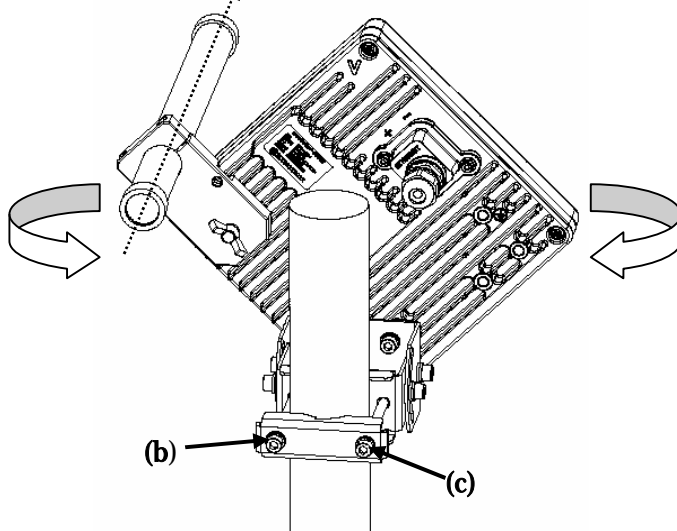
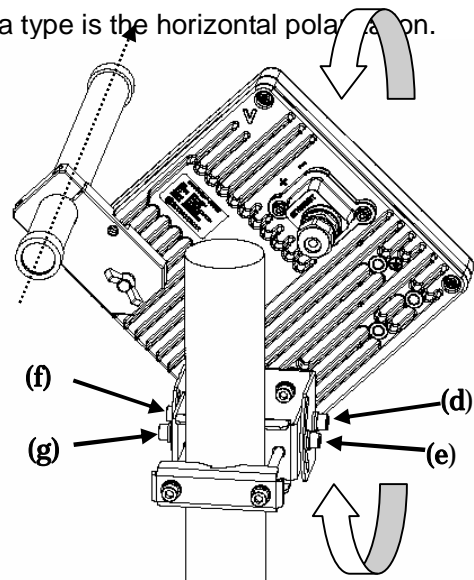

Figure 5-39 Rough-adjusting Horizontal Direction
Figure 5-40 Rough-Adjusting the Vertical Direction
Step1 As shown in Figure 5-39, loosen the hexagonal socket head bolts (a) and (b) securing the mounting bracket and swing the antenna left or right. Adjust the antenna approximately for the WT direction and finger-tighten the bolts (a) and (b).
Step2 As shown in Figure 5-40, loosen the bolts (c), (d), (e) and (f) and tilt the antenna up or down. Perform vertical-direction adjustment so that the WT of the opposite station can be seen and finger-tighten the bolts (c), (d), (e) and (f).
- Step2 As shown in Figure 5-39, loosen the hexagonal socket head bolts (b) and (c) securing the mounting bracket and swing the antenna left or right. Adjust the antenna approximately for the WT direction and finger-tighten the bolts (b) and (c).
- Step3 As shown in Figure 5-40, loosen the bolts (d), (e), (f) and (g) and tilt the antenna up or down. Perform vertical-direction adjustment so that the WT of the opposite station can be seen through the scope of the Antenna direction adjustment tool.
In Figure 5-39 and Figure 5-40 is an example when the antenna type is the horizontal polarization.